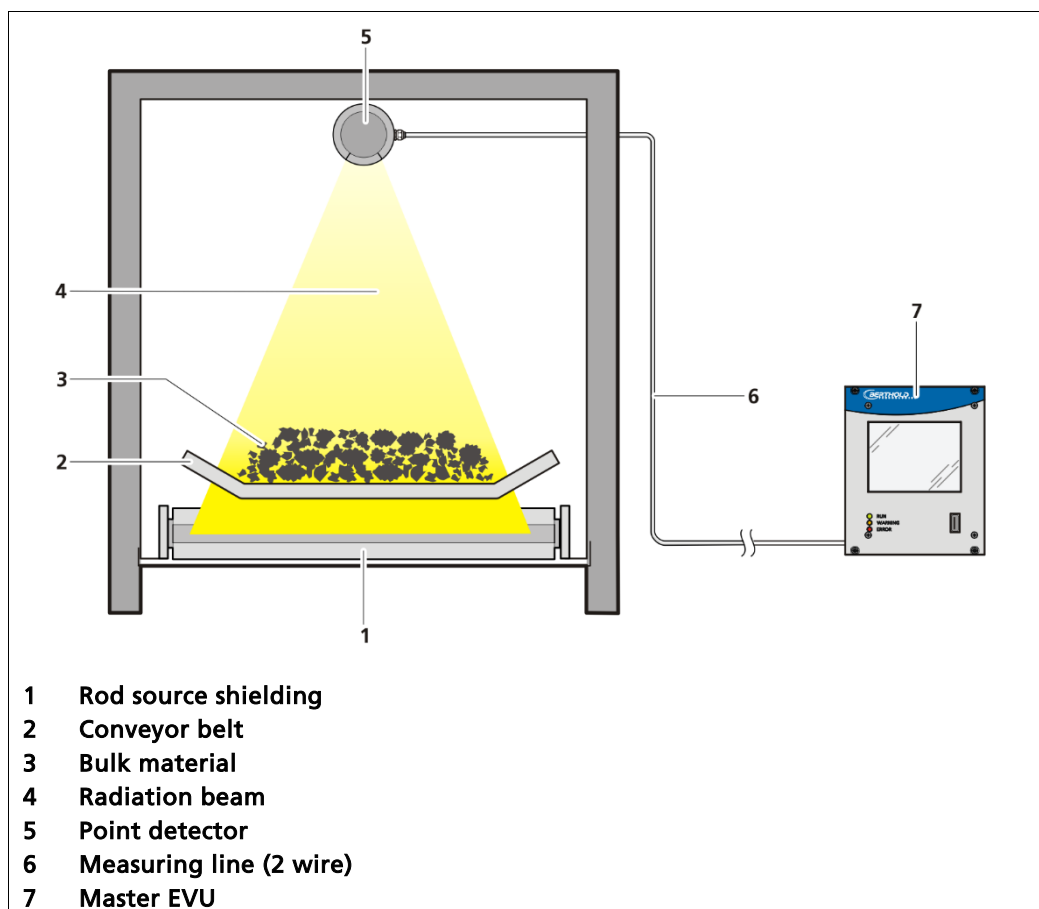

Fig. 1 Example measurement arrangement
These instructions concern the operation of the evaluation unit DuoXpert LB 472 (Fig. 1, item 7). The operation of other system components is part of the independent instructions of the respective system components.
The LEDs (fig.1, items 2-4) below the touch display show the current operating status of the master EVU.